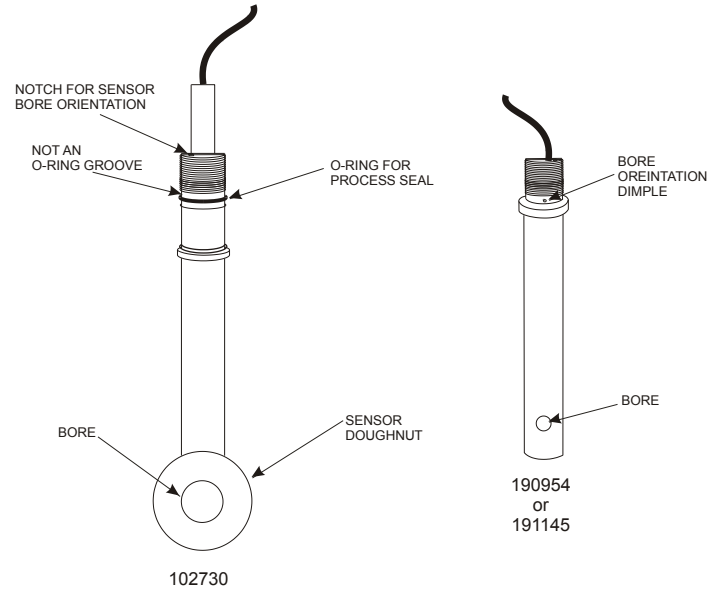

Figure 2 Sensor Mounting
1. There are two grooves near the cable end of the 102730 sensor. The groove closest to the cable is **NOT** an O-ring groove and should remain unoccupied. The next groove, as shown in Figure 2, **IS** for the O-ring.
Note: There are two notches at the cable cap (shown in Figure 2) that line up with the flat surfaces of the sensor “doughnut”. These notches are an aid in positioning the sensor in a pipe or vessel. The user should direct the flow through the sensor bore.